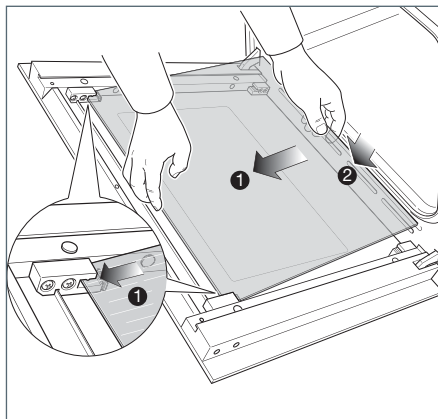
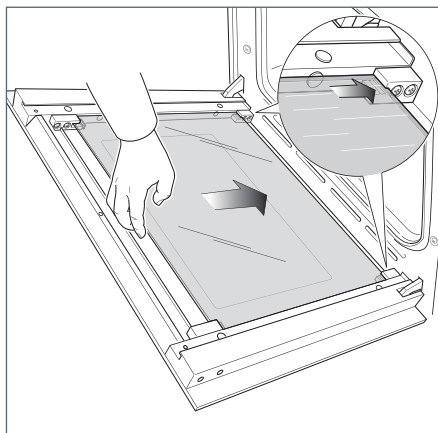

Fig.61b
Fig.61c
- Gently insert the top edge of the pane into the top clamps (arrow 1 in Fig. 61b), then lower the pane and insert the bottom edge into the bottom clamps (arrow 2 in Fig. 61b); and then slide the pane into position (Fig. 61c).